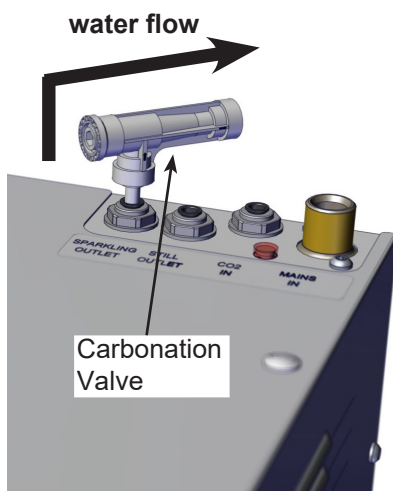

FIG.1
1. Remove the plug fitted into the connection marked "Sparkling Outlet" by first depressing the collet and simultaneously pulling out the plug. Fit the carbonation valve to the sparkling outlet connection on top of the unit as shown in FIG.1.